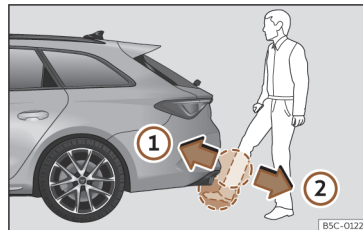

Fig. 89 Rear lid with sensor-controlled opening (Easy Open).
- With a brisk movement, bring your foot and lower leg as close as you can to the bumper. The lower part of the leg needs to be close to the upper sensor area and your foot must be close to the lower sensor area »» Fig. 89 ①.
- Quickly remove your foot and lower leg from the sensor areas»» Fig. 89 ②. The rear lid will be automatically opened.